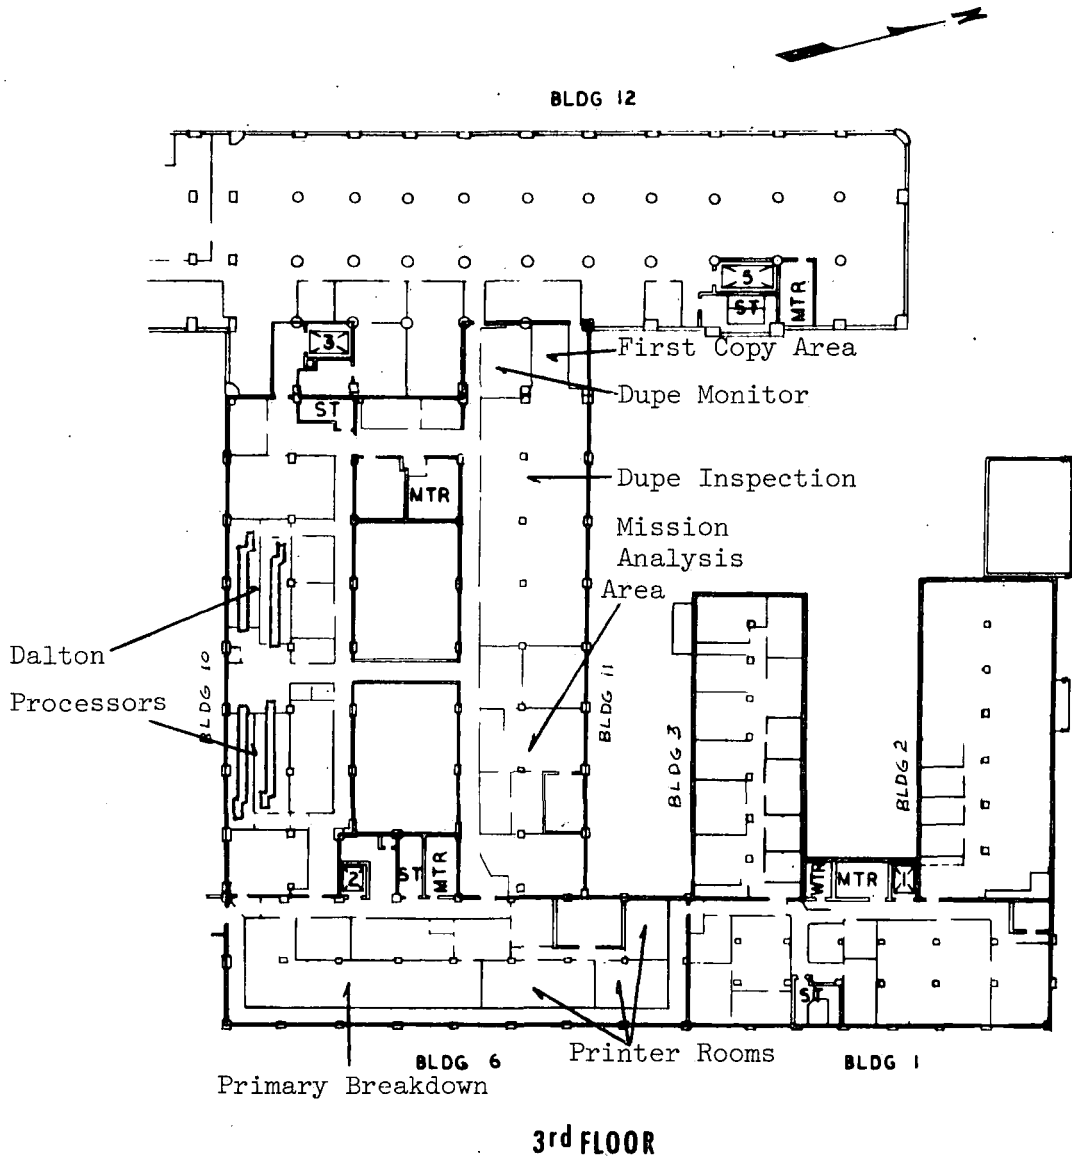

Figure 5
- 3rd Floor - Bldgs. 1-2-3-6-10-11 (Figure 5)